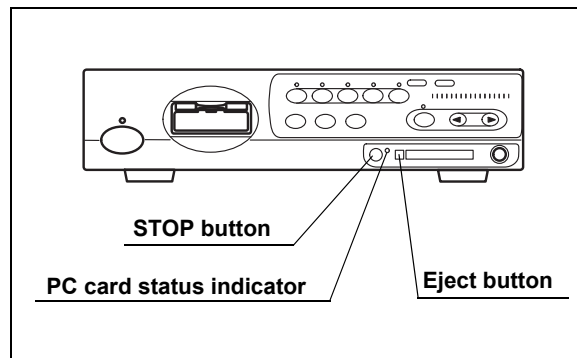

Figure 5.14
1. Press the “STOP” button. The PC card status indicator goes OFF (see Figure 5.14).